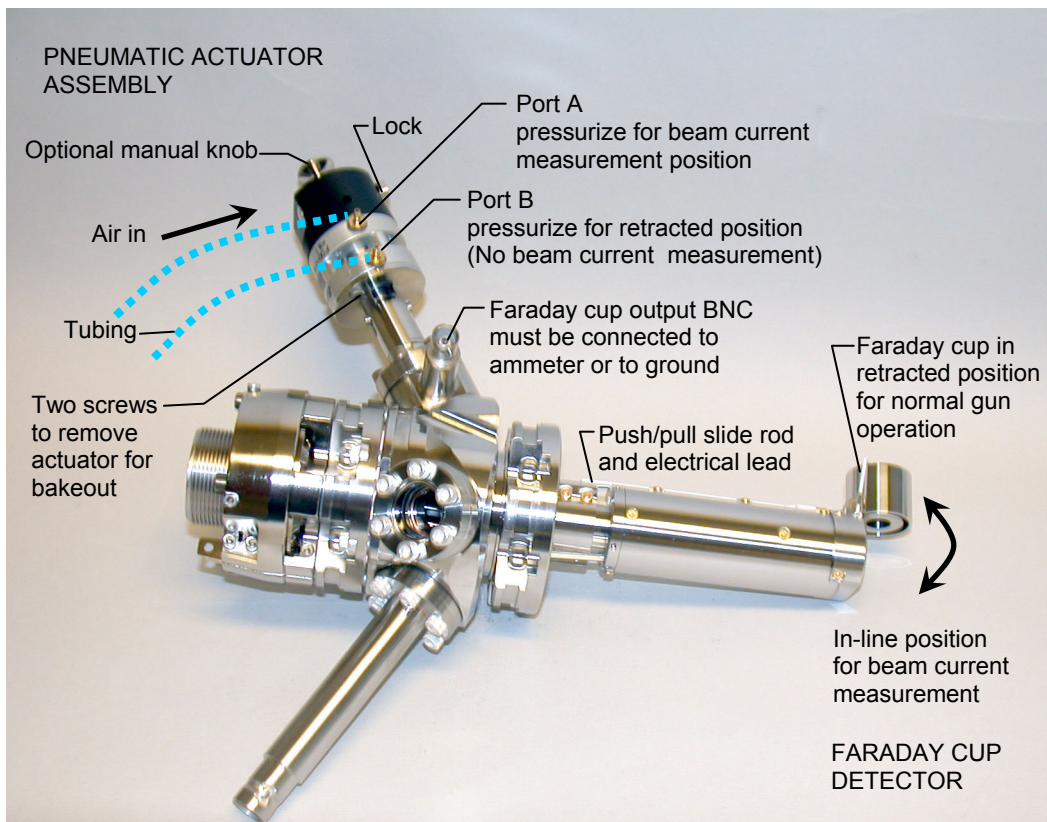

Fig. 4.9-1 Faraday Cup Assembly with Pneumatic Actuator
The Faraday cup assembly, mounted on the front end of the Ion Gun, is positioned by either a rotary feedthrough or a pneumatic actuator assembly, located on one of the 1½ inch (34 mm) conflat flanges on the Flange Multiplexer. The two types of gun-mounted Faraday cup are shown below in Figures 4.9-1 and 4.9-2. The Faraday cup assembly is UHV compatible, and can be heated to 350°C; however, the optional pneumatic cylinder and its external plastic tubing should be removed for bakeout. Some guns which were purchased without a Faraday cup can be modified for the addition of a Faraday cup assembly at the factory.
- a. Apply air pressure to Port "A" and vent Port "B" to position the Faraday cup in the measuring position (in-line position); see Fig 4.9-1